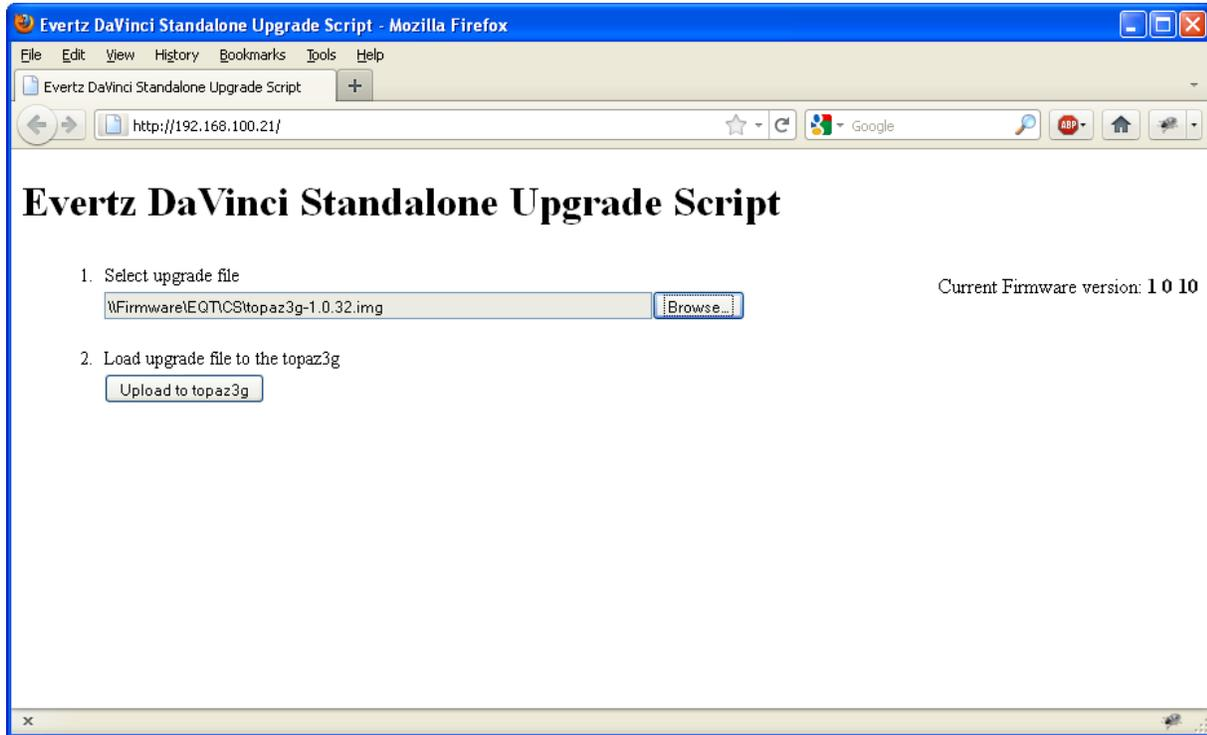

Figure 7-2: EQT Upgrade Screen for Upload
2. Using the *Browse...* button, select the new file that should be saved on your computer. This file should have an extension of *.img*. Once a file has been selected, a button to upload the file to the EQT will appear below, as show in Figure 7-2.